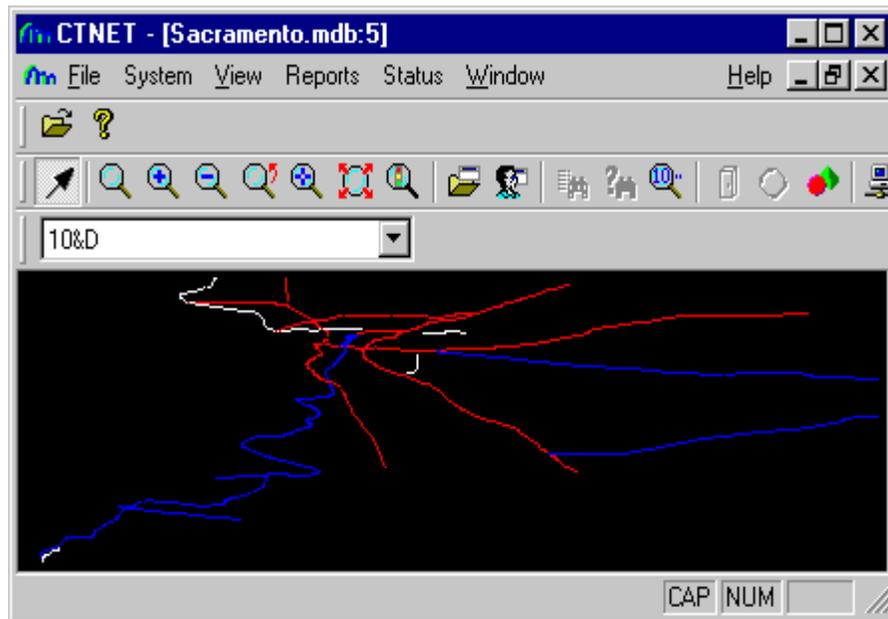

Figure 4.2 – Sacramento County Map
- The database will be loaded and county map will be displayed in a new window. The blue lines on the map indicate State Highways, red lines indicate State Freeways and black lines indicate the main streets. Figure 4.2 shows Sacramento County map as displayed by CTNET.